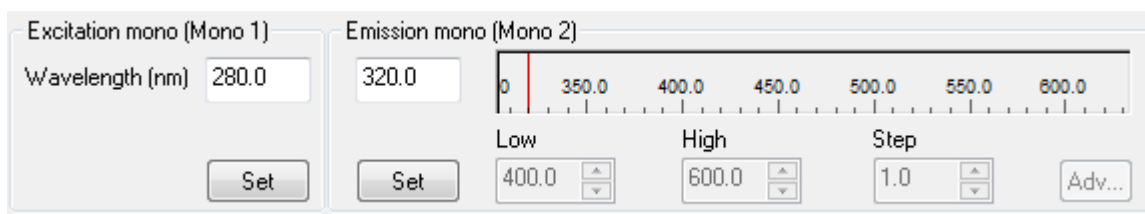

Figure 2-37: The Monochromator panels for kinetic fluorescence emission
4) On the Monochromator panel, (Figure 2-37), ignore the Excitation mono setting. On the Emission mono panel enter the wavelength you wish to measure and click Set. The bandwidth of the measured light may be adjusted by changing the slit settings on the front of the emission monochromator. Slit settings between 2-3mm are typically recommended for emission studies.